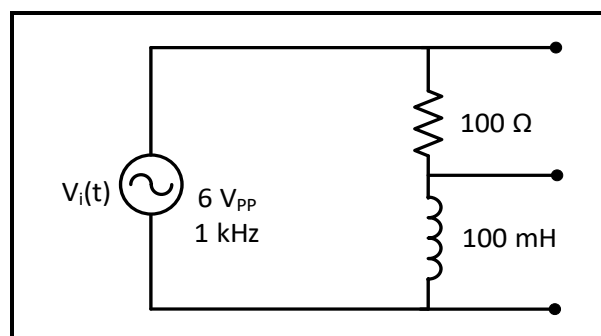

Figure 7.13
1. Connect the circuit of Figure 7.13, set V_{in} to sinusoidal voltage at 6 V_{PP}, and $f = 1$ kHz.